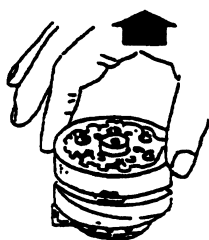

FIG B-1
- 2) Remove the upper cylinder unit. Fig. B-1.